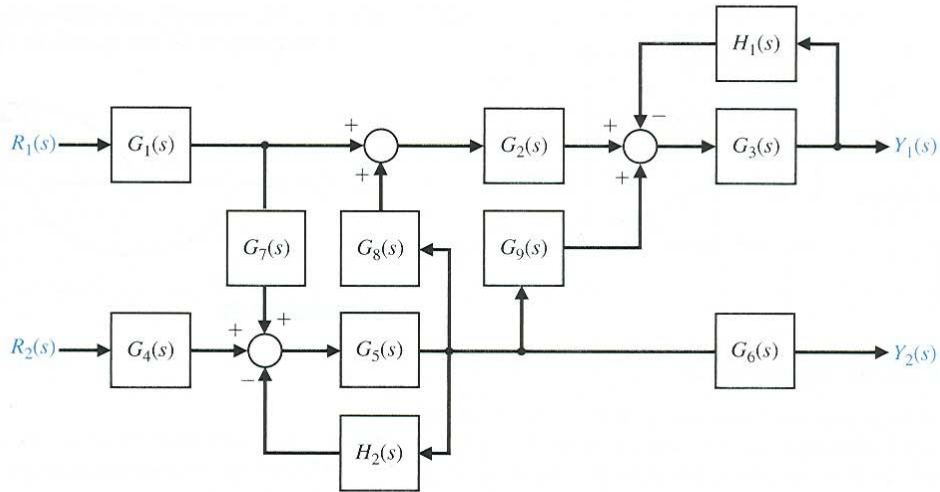

**FIGURE E2.11** Spring characteristic.
**E2.11** A spring exhibits a force-versus-displacement characteristic as shown in Fig. E2.11. For small deviations from the operating point, find the spring constant when  $x_0$  is (a)  $-1.4$ , (b)  $0$ , (c)  $3.5$ .